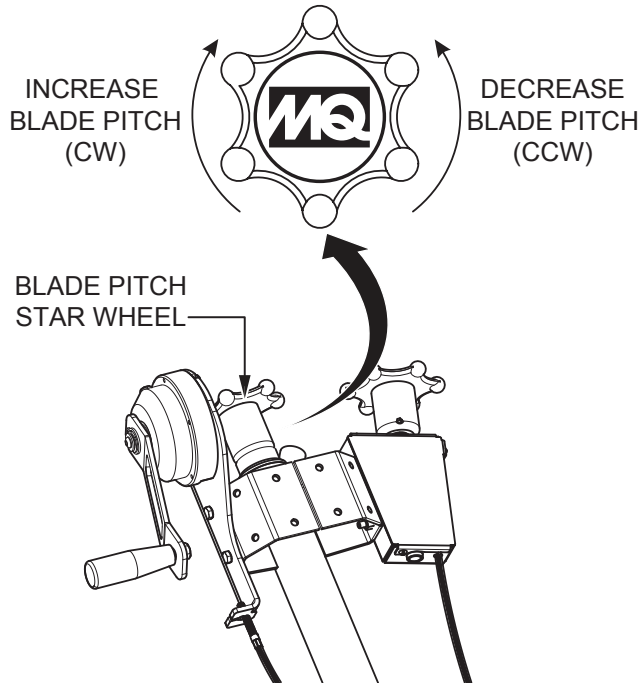

Figure 7. Blade Pitch Cable Adjustment
1. Turn the star wheel **counterclockwise** to pitch the blades flat. This releases tension on the pitch cable (Figure 7).